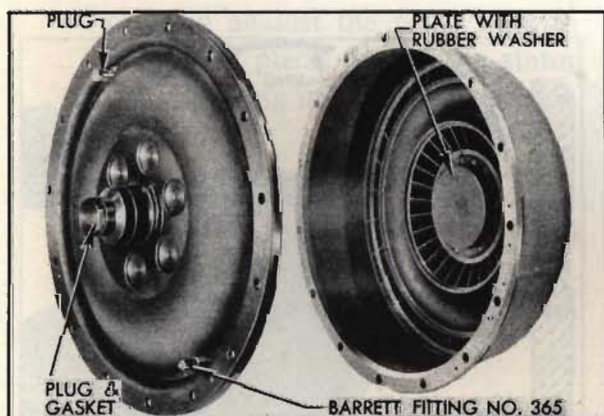

Fig. 33. Plate and plugs installed in pump and cover
2. Install fixture inside converter pump as shown in Fig. 33. Install pump cover and seal. Tighten to 25-30 ft.-lbs. torque in correct sequence.
3. Install one drain plug and one Barrett fitting No. 365 in other drain hole. Install large plug with gasket in converter pump cover hub (Fig. 33).